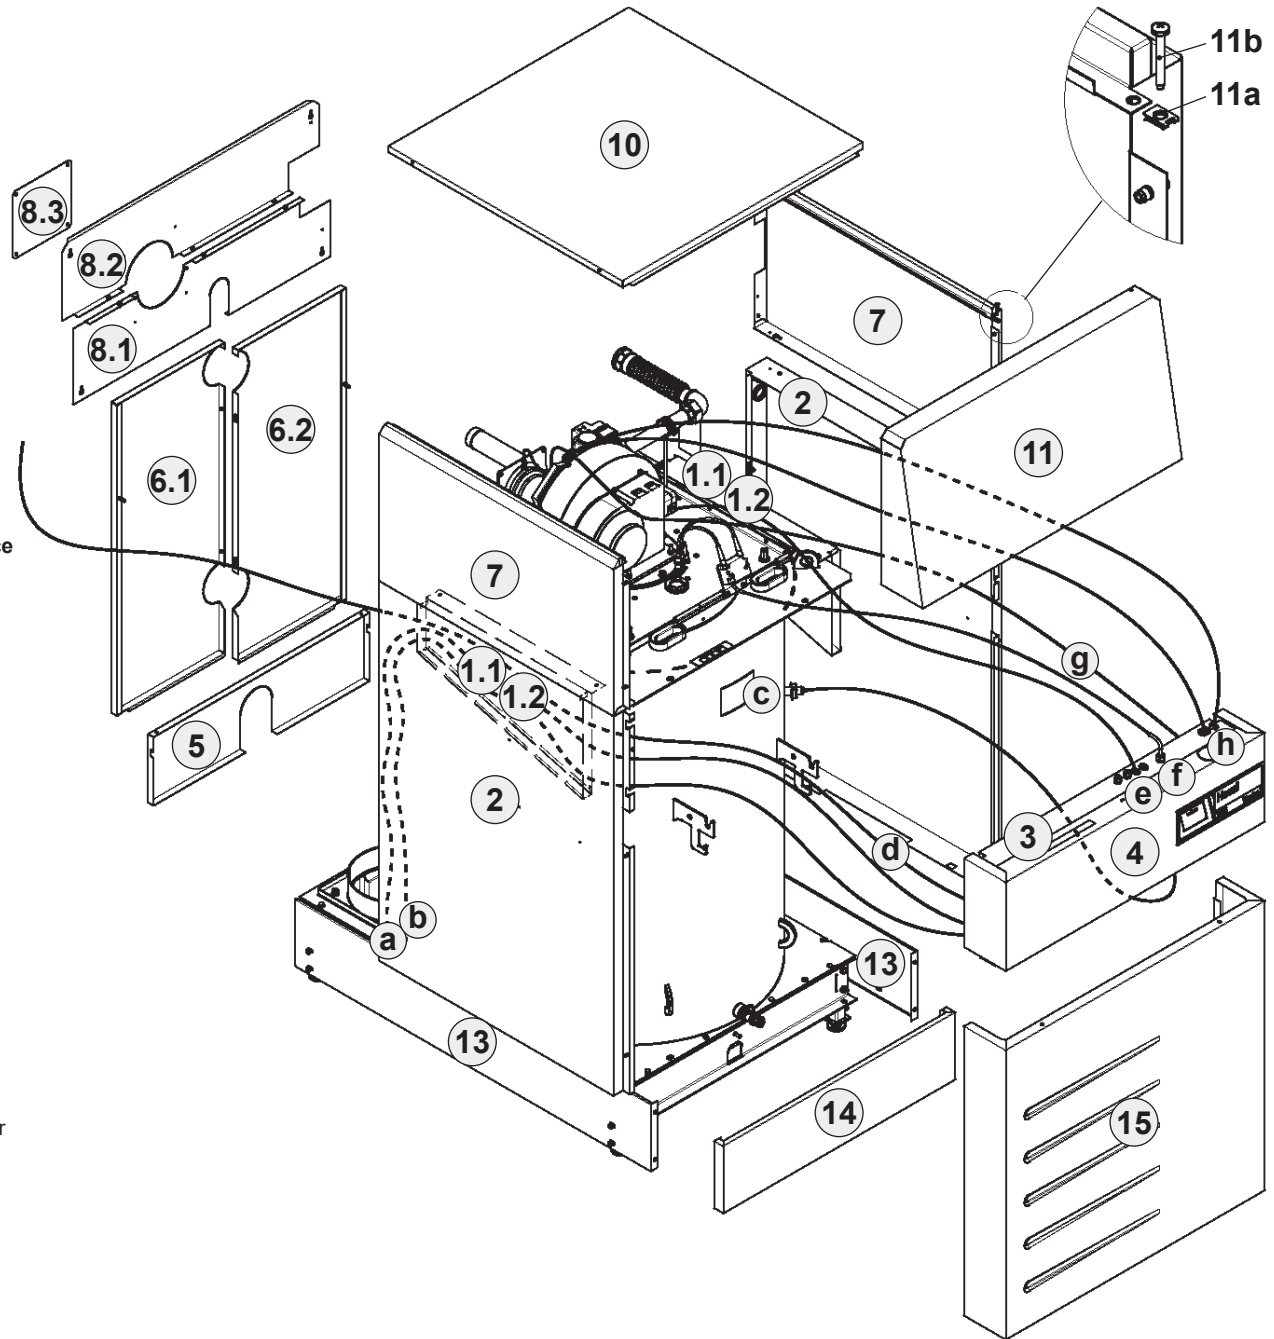
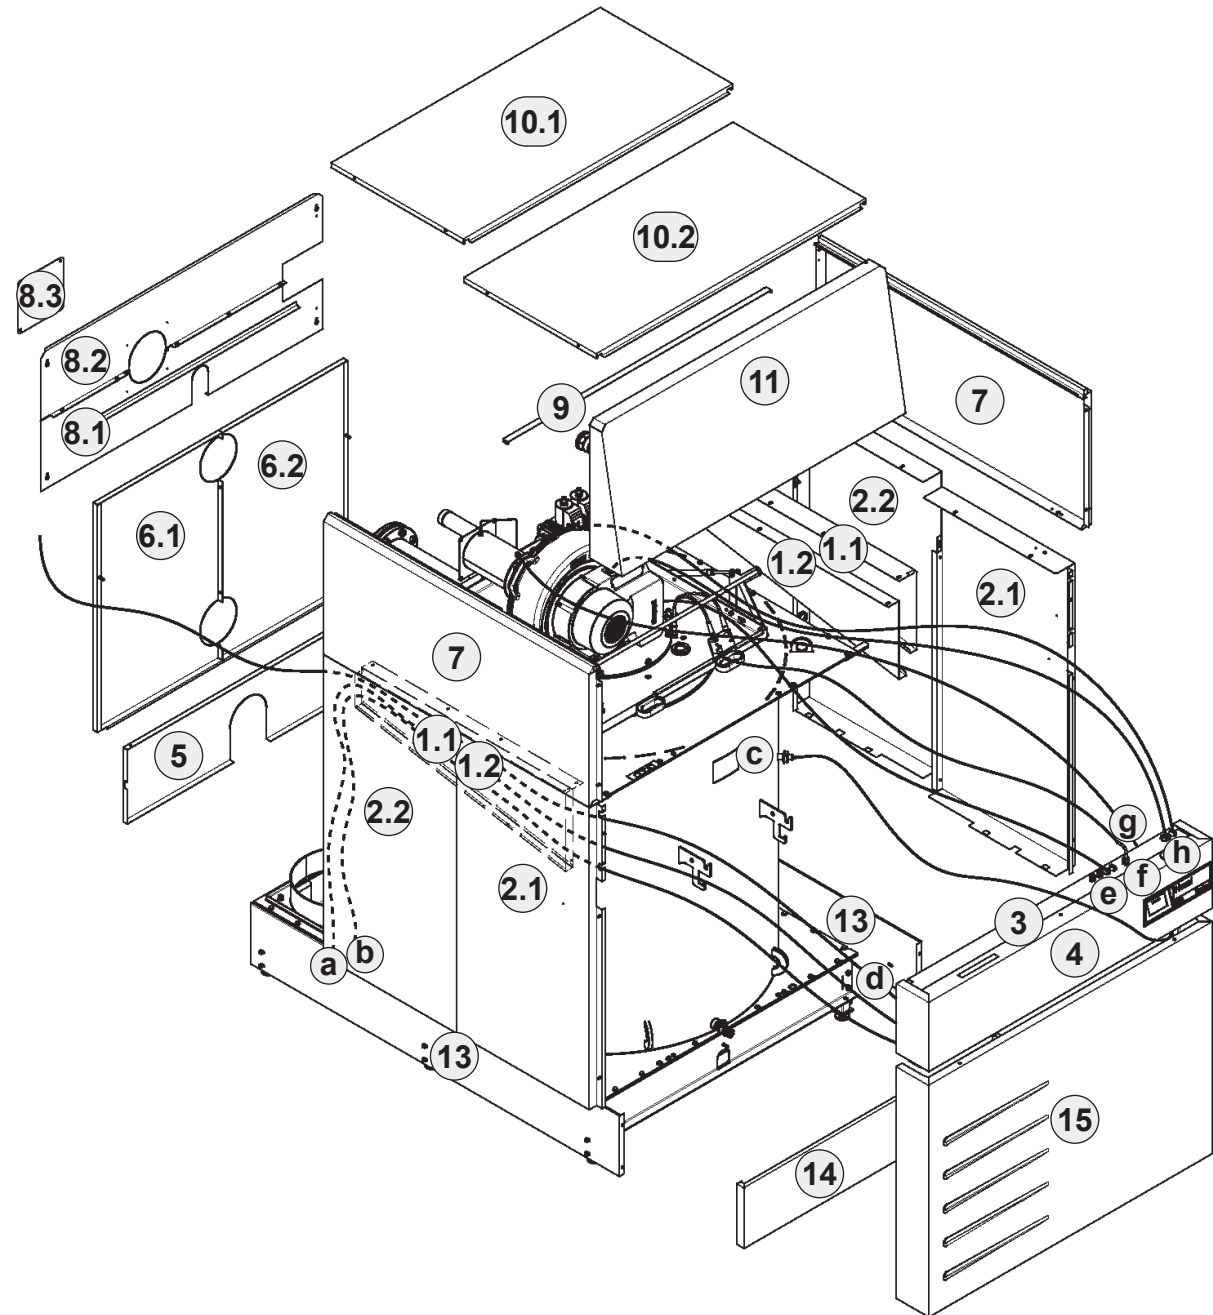

Fig. 10
Fig. 11
5. Route all cables (a-h, Fig. 10/Fig. 11) and establish plug-in connections (wiring in accordance with Fig. 10 or Fig. 11).
- 14. Hang the climbing aid on the previously installed wall bracket (see Fig. 10 and Fig. 11).